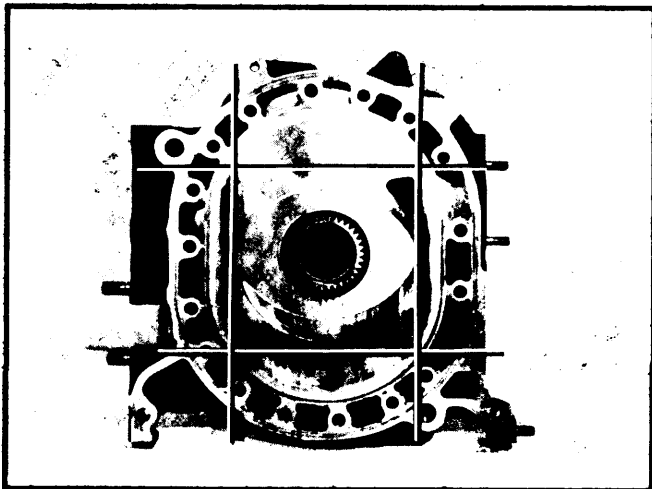

Fig. 7 Straightedge Positions for Checking Housing Distortion
3) Place a straightedge across housing surface in positions shown in illustration. Using a feeler gauge, measure distortion of front housing. Replace or reface housing if distortion limit of .0016" (.04 mm) is exceeded, (Fig. 7).